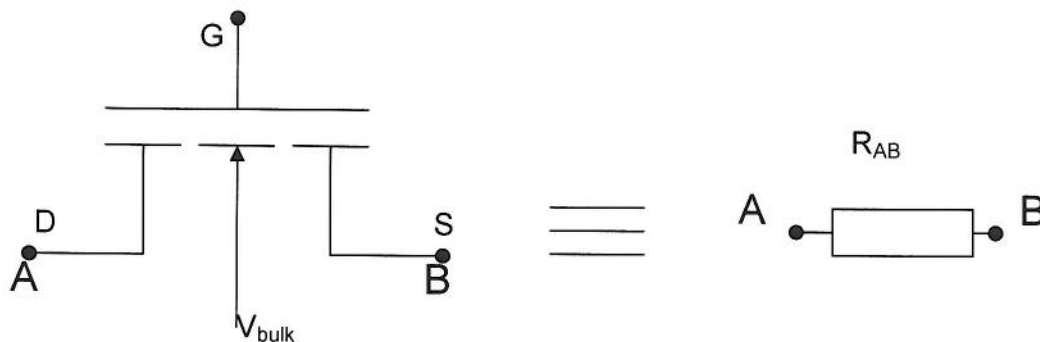

Figure 4.1
4. (a) Under what operating conditions does the MOSFET of Figure 4.1 realise a linear floating resistor between terminals *A* and *B*? Explain why the bulk is not connected to the source.
- (b) Discuss three sources of non-linearity in the single MOSFET resistor realisation of Figure 4.1 and suggest one suitable circuit design to help eliminate one or more of these non-linear terms. Show all necessary circuit analysis to confirm your design.